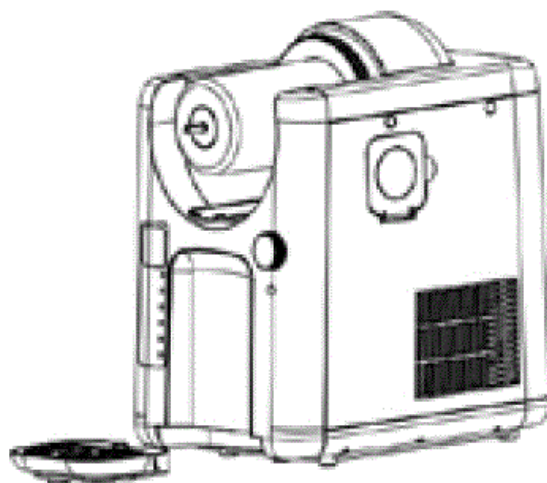

Fig. 10
18. Pull the drip tray out of the appliance, empty the tray, and clean the tray and drip grate in warm water with a little washing-up liquid (Fig. 10).